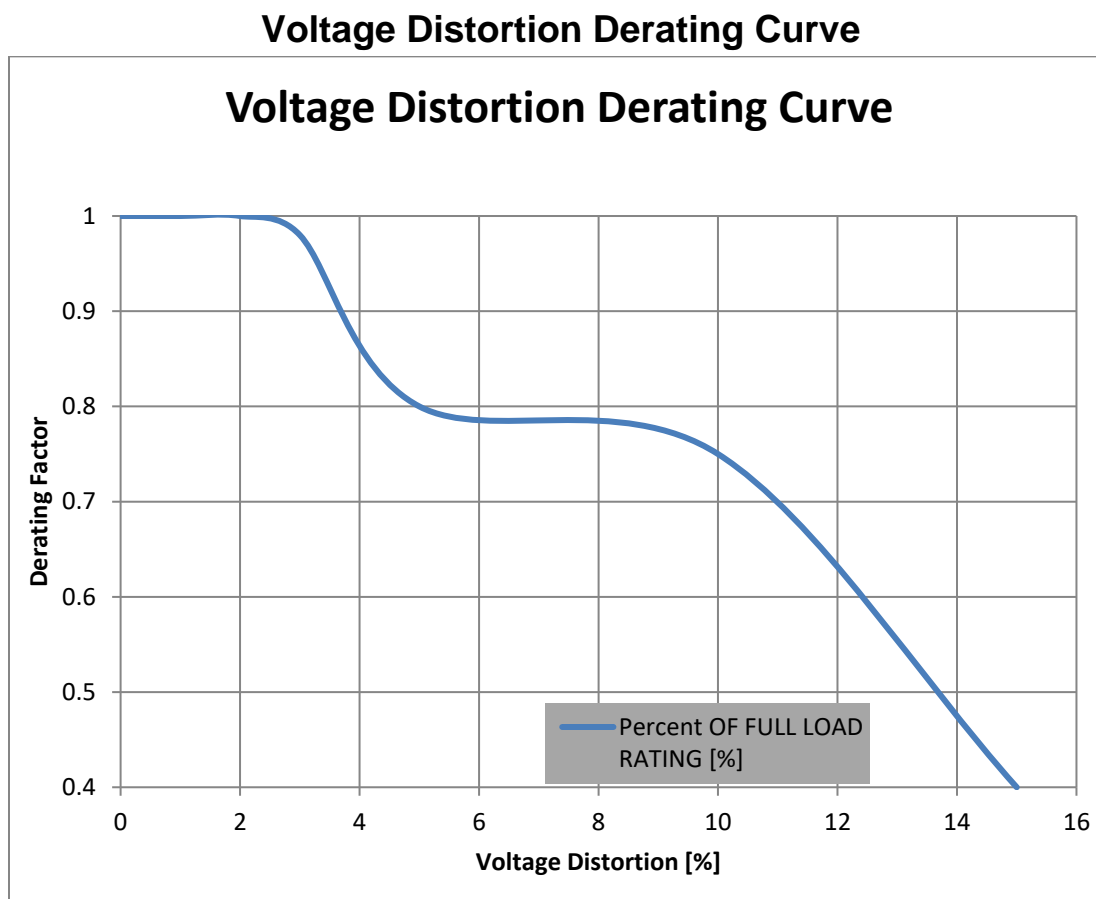

Figure 3-6: Voltage Distortion Derating Curve
- ☐ **Voltage Distortion:** See Figure 3-6: Voltage Distortion Derating Curve (p14) for voltage distortion derating curve.